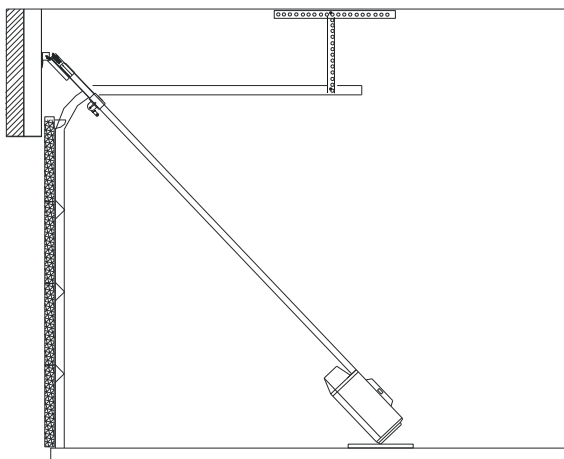

Fig 6
- Lift the Drive Pole Assembly up to the Header Bracket so that the Terminal Bracket sits in between the ears of the Header Bracket. (Fig 6)